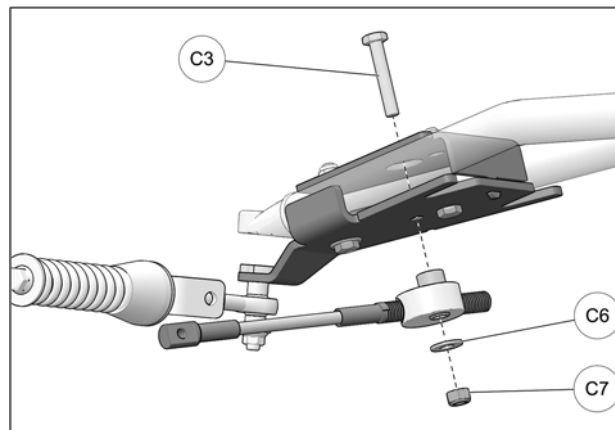

Fig. 33
16. Pass bolt (C3) down through opening in bracket cover and insert it in the anchor bracket's center hole. Slip steering limiter cable assembly over bolt (C3) and use washer (C6) and nut (C7) to secure assembly to anchor bracket. Tighten nut to 50 N•m [37 lb•ft]. See Fig. 33